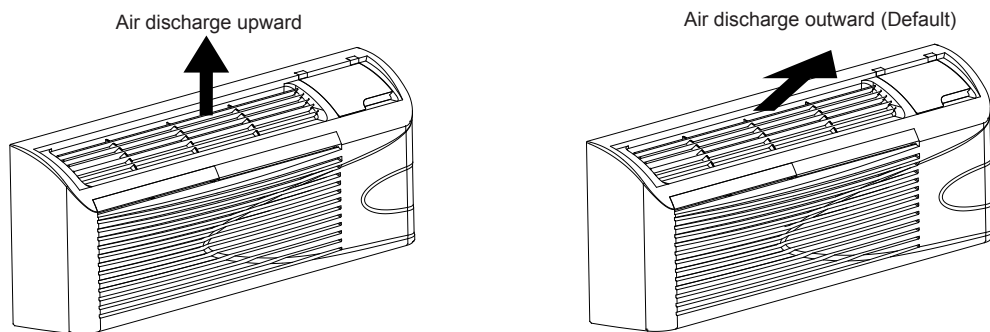

Fig. 18 – Adjusting Louvers
3. Turn louver insert and rotate 180°. See Fig. 18.